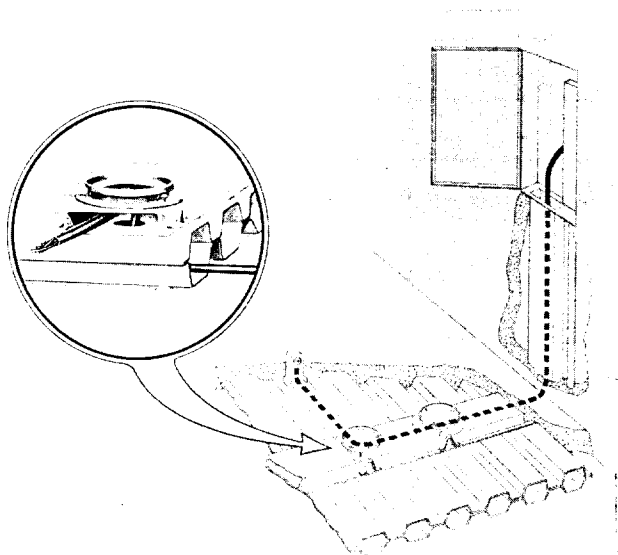

Fig. 3—Cellular Underfloor Duct System
**2.06** The cellular underfloor duct system (Fig. 3) consists of cell centers which are 6 inches apart. A header duct crosses the cells and connects to a distribution terminal cabinet. Junction boxes, located in the header duct, provide access to the system wiring.